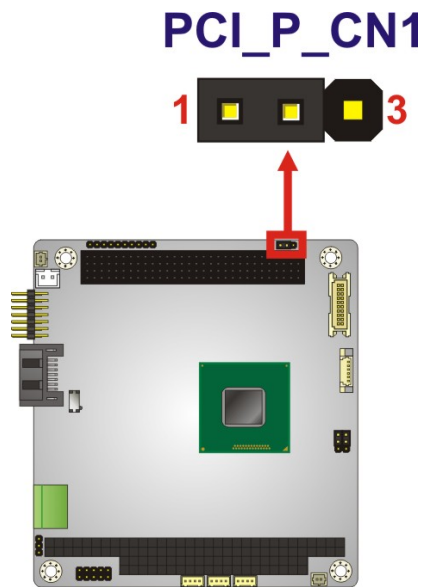

Figure 4-8: PCI Voltage Jumper Location
- Jumper Location:** See Figure 4-8